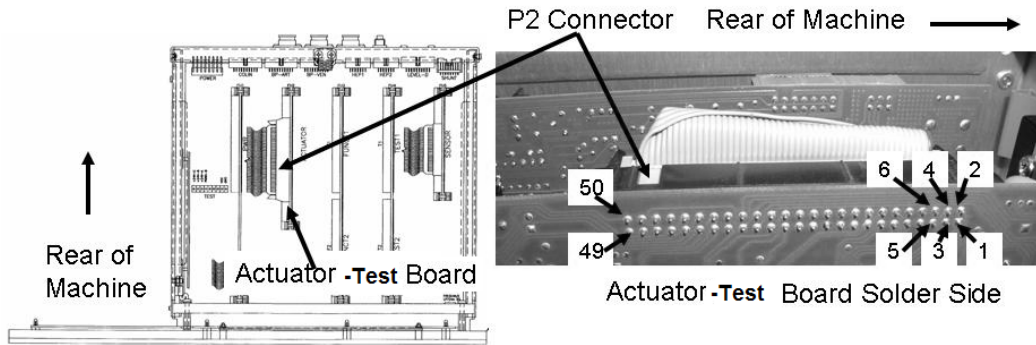

Figure 92 – Electronic Card Cage (Actuator-Test Board)
- i) Per Figure 92 (page 567), the cable terminates at the actuator board's P2 connector. The rear side **PINS** are in two rows. Odd numbered in the bottom row, even in the top. NOTING the reference to the 'Rear of Machine' locate the appropriate **PIN** per Table 12 or Table 13.